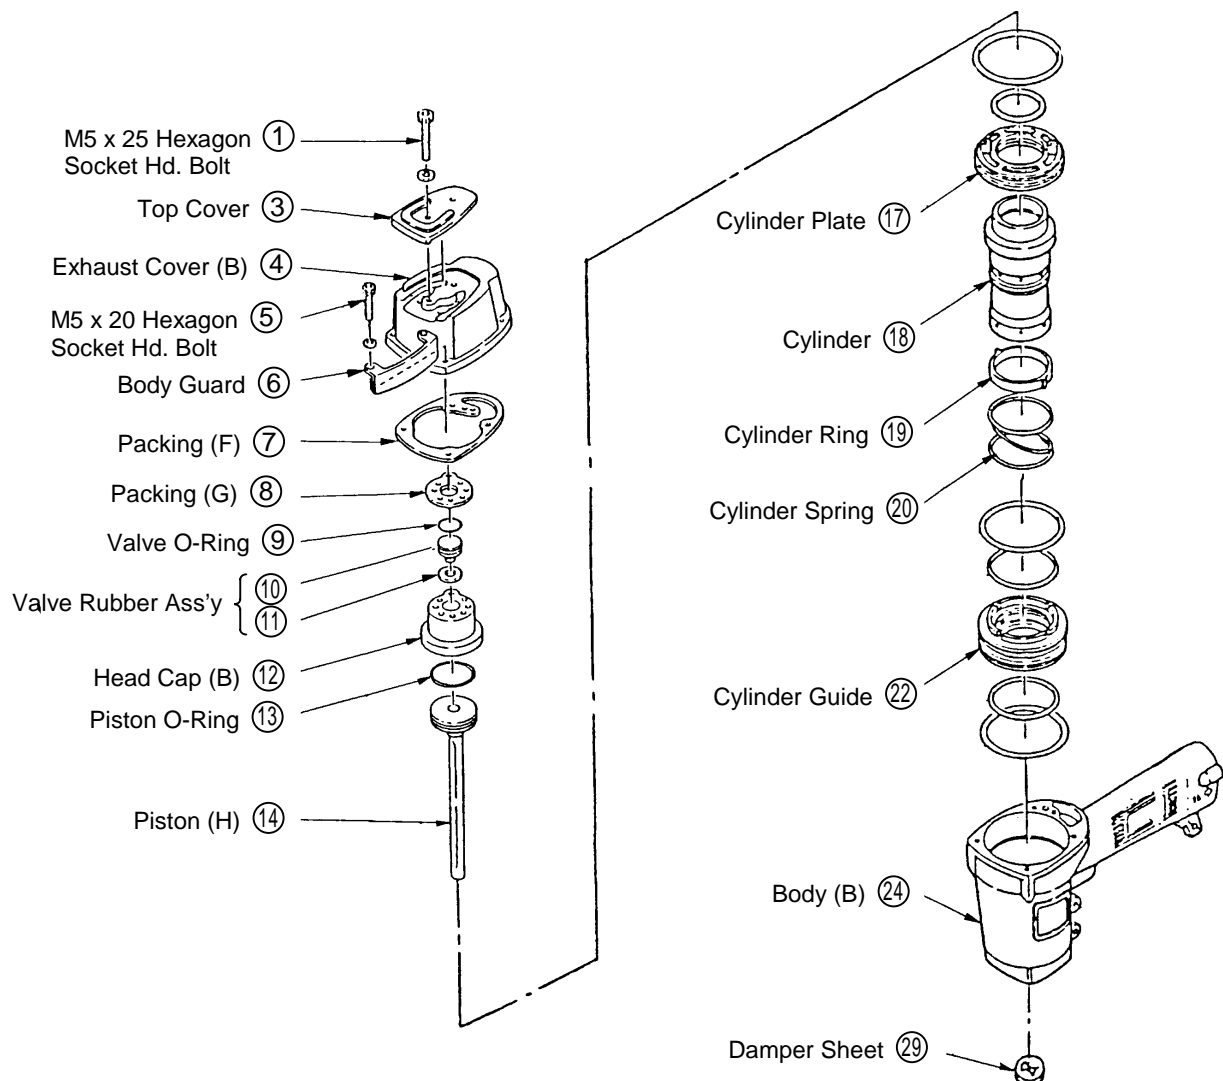

Fig. 12
- Reassemble Packing (A) (30) so that its air vents are properly aligned with the matching air vents on the Tail Cover (63) and Body (B) (24).
- Assemble Body (B) (24), Tail Cover (63), and Magazine Ass'y (107) in accordance with the following procedures:
- (I) First, assemble the Tail Cover (63) and Push Lever (47). Then, fasten Body (B) (24) and the Tail Cover (63) with the four M5 x 16 Hexagon Socket Hd. Bolts (44), and tighten them to rated torque.
- (II) Fasten the Push Lever (47) with the D3 x 30 Roll Pin (45).
- (III) With the Magazine Bushing (71), assemble the Tail Cover (63) and Magazine Ass'y (107) and confirm that they are securely fastened. Then, fasten the Magazine Ass'y (107) to Body (B) (24) with the M5 x 20 Machine Screw (38).
- (2) Cylinder (18), Piston (H) (14) and Related Parts:
- (a) Disassembly: (Refer to Fig. 12)
- As described in Paragraph 1-1- (1), disassemble the Tail Cover portion, and remove Damper Sheet (29) from the Piston Damper (28).
- Assemble Piston (H) (14) so that its semi-circular grooved side is facing toward the Magazine side. (Same as Paragraph 1-1- (1) (b))
- Ensure that the air vent holes on Packing (F) (7) are properly aligned with the matching holes in Body (B) Ass'y (24).
(3) Hard Cap (B) Ass'y (12), Valve Rubber Ass'y (10), and related parts: (Refer to Fig. 12)